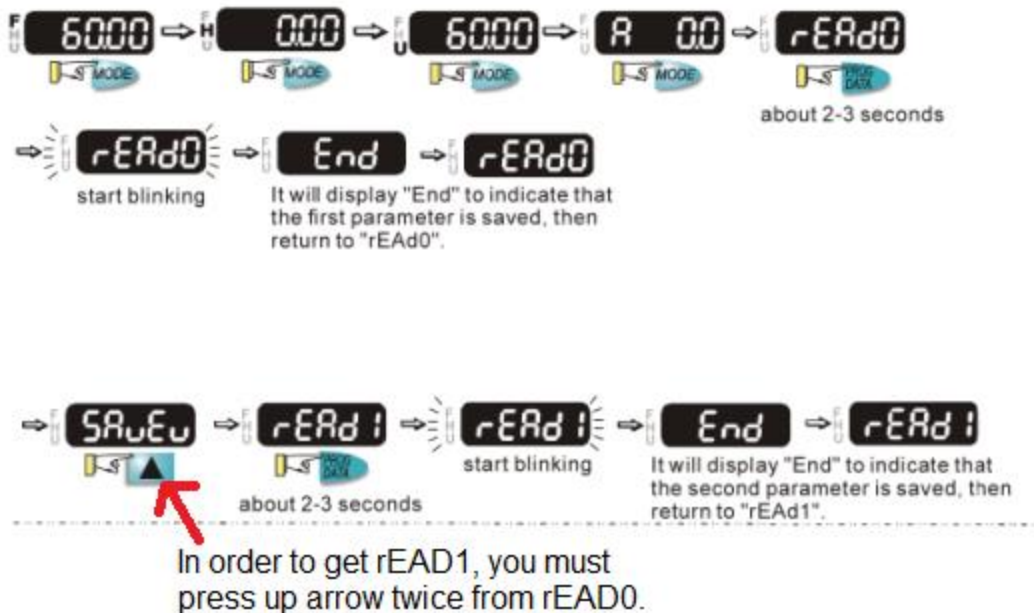

Figure 5.6.2B
- b. To upload the parameters from the AC drive to the Operator follow the sequence in Figure 5.6.2B